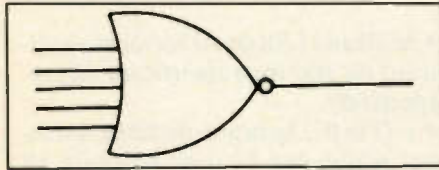

Figure 3
W. In the multiple-input gate of Figure 3, the output terminal goes HIGH if:
- Question W: Figure 3 is a NOR gate; the output of a NOR gate goes LOW if any of its inputs is HIGH; therefore all inputs must be LOW in order to force the output HIGH.